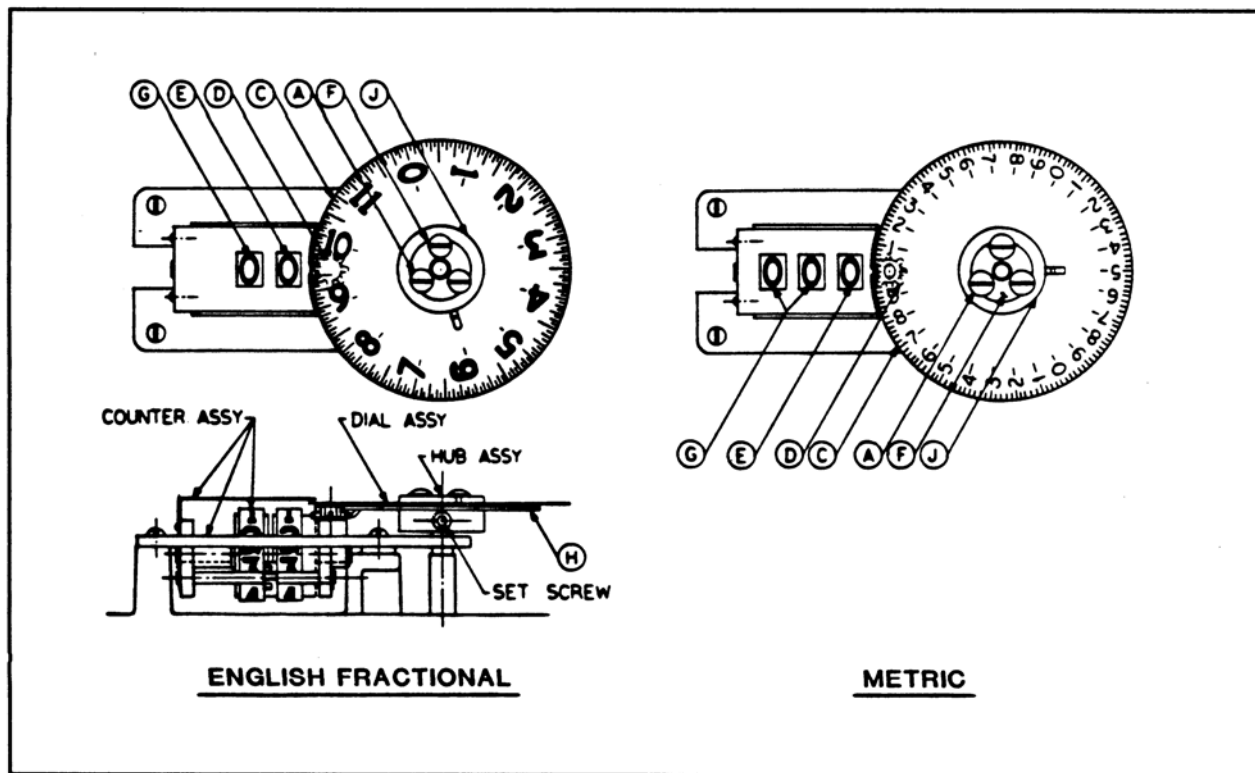

Figure 3-6: Display Adjustments
Figure 3-6 shows display adjustments in English fractional and metric.
2. See Figure 3-6 on page 21 and loosen screws, "A" until the dial plate, "C" and gear "H" rotate freely and independently of the hub.